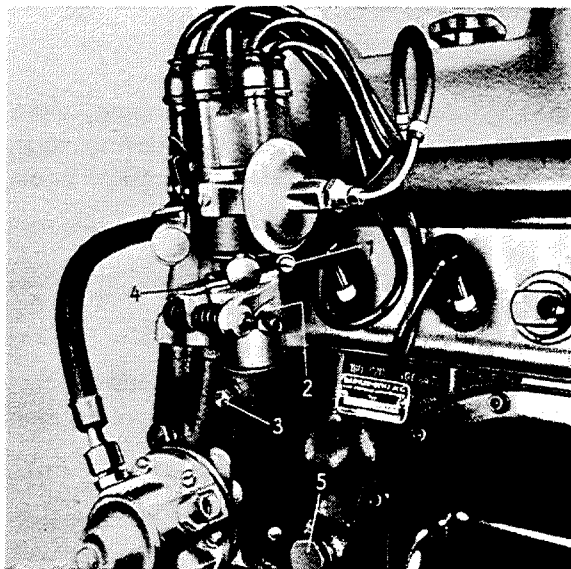

Fig. M 3/9
9. Loosen cheese-head screw (1) locking the adjusting lever as well as trunnion screw (2) securing the distributor. Pull out distributor support with adjusting lever (4) after trunnion screw (3) has been loosened (Fig. M 3/9).